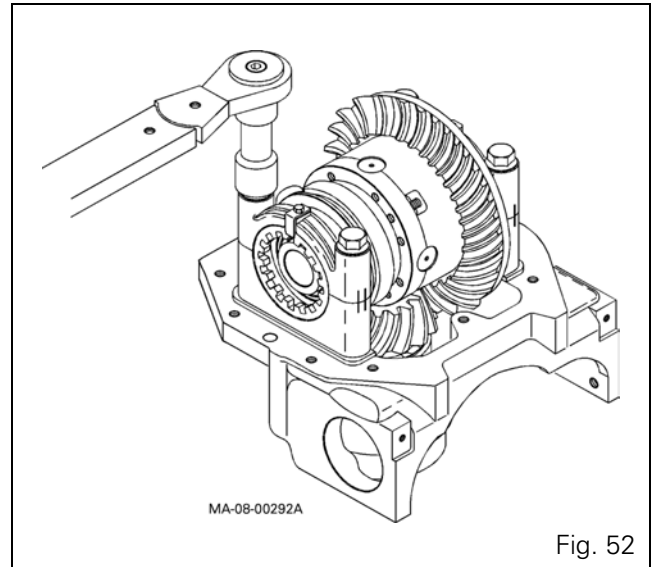

Fig. 52
67. Tighten the screws of the two half-bearings to 413 Nm using a torque wrench (Fig. 52).